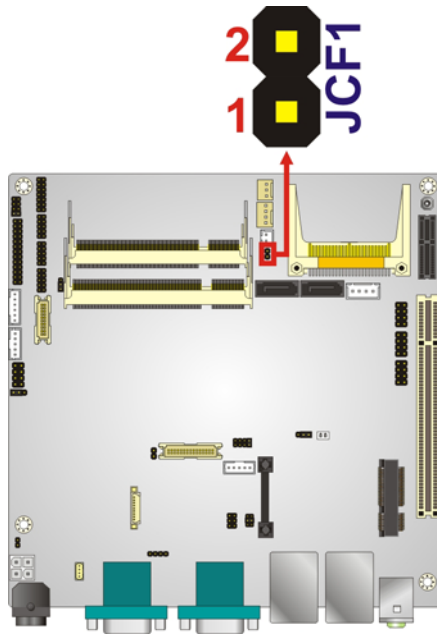

Figure 4-6: CompactFlash® Setup Jumper Location
- Jumper Location:** See **Figure 4-6**